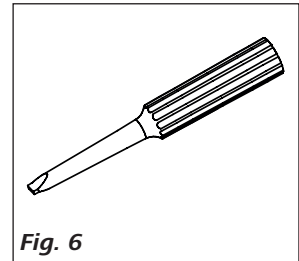

Fig. 6
- Screwdriver (use for safety circuit)      see **Fig. 6**